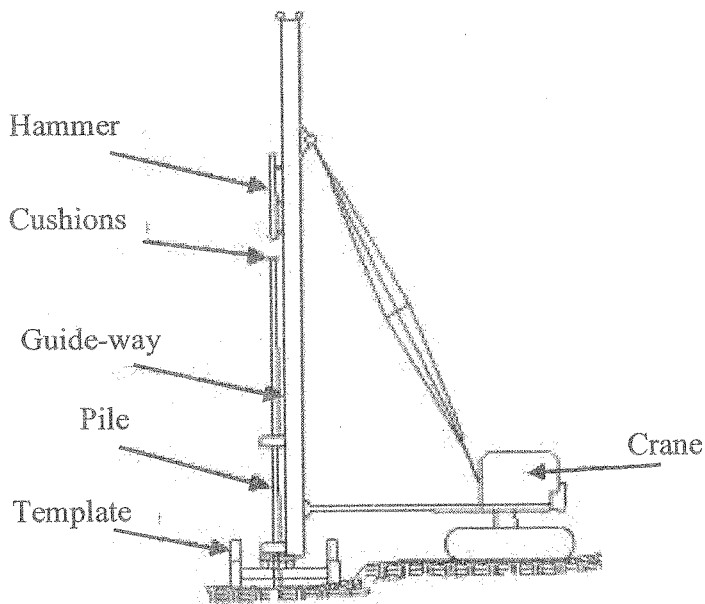

Figure Q1
- b) Figure Q1 shows a pile driving operation. The hammer is raised and allowed to fall in order to hit the pile so that the pile penetrates into soil.
- What is the purpose of having a "cushion" shown in the Figure Q1?